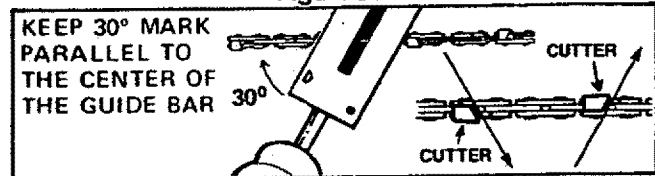

Figure 29
- b.) Hold the file holder level with the 30° guide mark parallel to the center of the chain. Figure 29.
- c.) File from inside toward outside of cutter, straight across, on forward stroke only. Use 2 or 3 strokes per cutting edge. Figure 29.